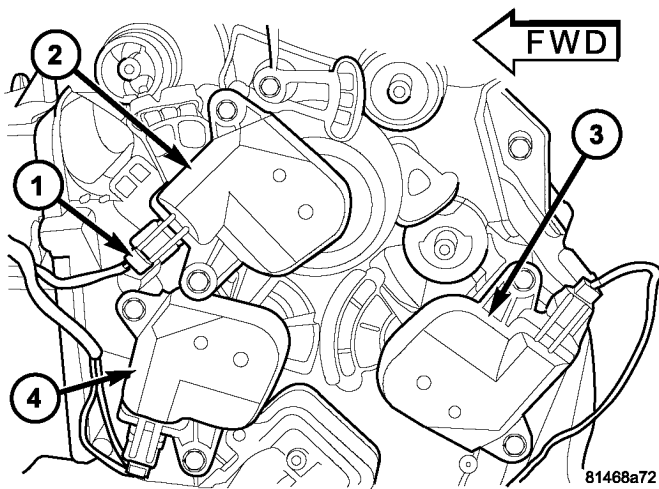

Fig. 11 Actuator - Wire Harness Connections
(1) Remove the HVAC housing from the vehicle and place it on a workbench (Refer to 24 - HEATING & AIR CONDITIONING/DISTRIBUTION - FRONT/HVAC HOUSING - REMOVAL).
(2) Disconnect the HVAC wire harness connectors from the mode door actuator and the two blend door actuators located on the driver side of the air distribution housing and position the HVAC wire harness out of the way (Fig. 11).